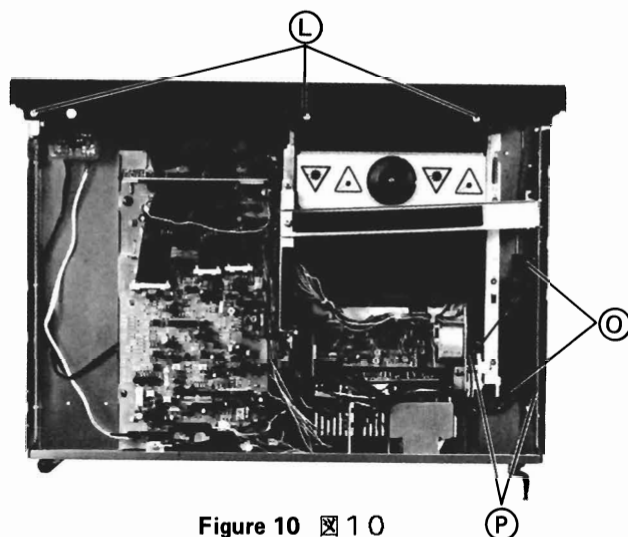

Figure 10 図10
- (1) Remove top cover, tray panel, and tray mold.
- (2) Remove seven screws (L), (M) and (N) securing front panel, and the front panel assembly will be removed. (Pay attention to connector leads and joint of power supply switch.) (See Figure 10, 11 and 12)
- (1) After removing front panel, remove two screws (O) and two rivets (P). (See Figure 10)